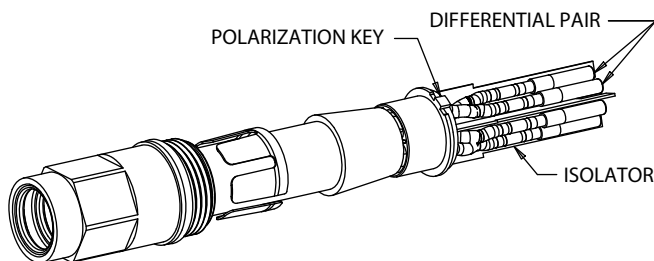

FIGURE 3
- B. Insert each pair of wires into the appropriate quadrant on the isolator according to figure 3 for socket modules, and figure 4 for pin modules.
- C. Snap each pair into the appropriate position on the inner insulator. Refer to figure 2 for sockets and figure 3 for pins.